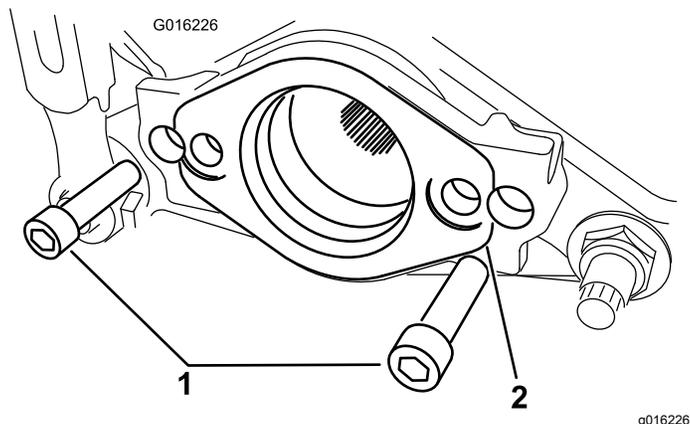

Figure 5
- If you are installing the kit on a Triflex machine, remove the 2 bolts securing the motor mount to the cutting unit. Remove the motor mount (Figure 5).